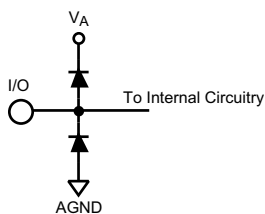

Figure 1.
- (1) The inputs are protected as shown below. Input voltage magnitudes above V_A or below GND will not damage this device, provided current is limited per Note 4 in the Absolute Maximum Ratings table. However, errors in the A/D conversion can occur if the input goes above 2.6V or below GND as described in the Operating Ratings section, see Figure 1.
- (2) With a full scale differential input of $2V_{P-P}$, the 14-bit LSB is 122.1 μV .
- (3) Typical figures are at $T_A = 25^\circ\text{C}$ and represent most likely parametric norms at the time of product characterization. The typical specifications are not guaranteed.
- (4) Integral Non Linearity is defined as the deviation of the analog value, expressed in LSBs, from the straight line that passes through positive and negative full-scale.
- (5) The input capacitance is the sum of the package/pin capacitance and the sample and hold circuit capacitance.
- (2) With a full scale differential input of $2V_{P-P}$, the 14-bit LSB is $122.1\text{ }\mu\text{V}$.
- (4) This parameter is specified in units of dBFS - indicating the value that would be attained with a full-scale input signal.
- (4) I_{DR} is the current consumed by the switching of the output drivers and is primarily determined by load capacitance on the output pins, the supply voltage, V_{DR} , and the rate at which the outputs are switching (which is signal dependent). $I_{DR} = V_{DR}(C_0 \times f_0 + C_1 \times f_1 + \dots + C_{13} \times f_{13})$ where V_{DR} is the output driver power supply voltage, C_n is total capacitance on the output pin, and f_n is the average frequency at which that pin is toggling.
- (1) The inputs are protected as shown below. Input voltage magnitudes above V_A or below GND will not damage this device, provided current is limited per Note 4. However, errors in the A/D conversion can occur if the input goes above 2.6V or below GND as described in the Operating Ratings section. Figure 1
- (2) With a full scale differential input of $2V_{P-P}$, the 14-bit LSB is $122.1\ \mu\text{V}$.